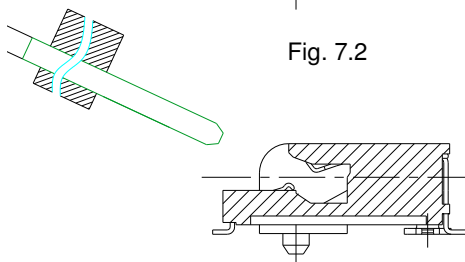

Fig. 7.3
**Step 2nd:** Take away the module by hand (see Fig. 7.3).